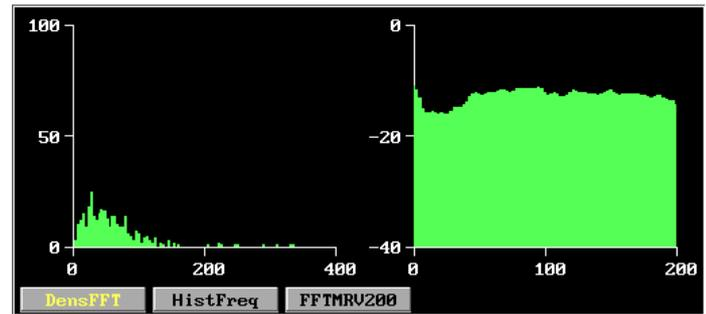
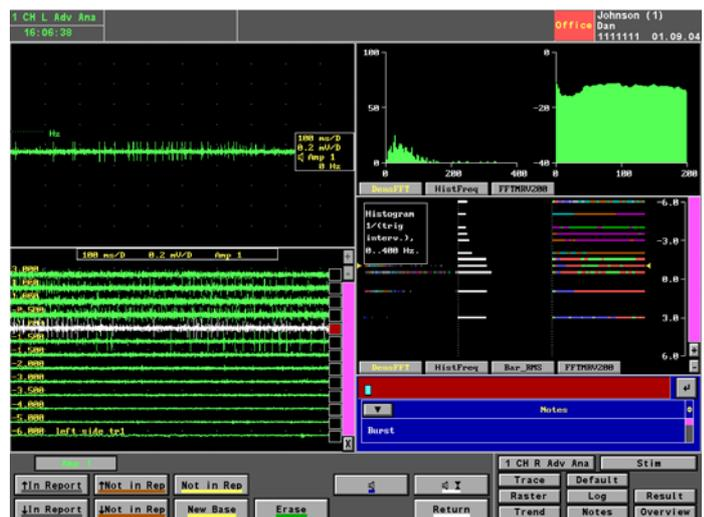

Figure 32 The Result Window from Fig. 38 above.
Figure 34 Overview Window: 2 yellow arrows
If no signal is selected, it is the last saved signal displayed. One example is the HistFreq display, the left chart in Figure 32. This shows the histogram of the frequency of the detected peaks in the signal. The frequency is along the x-axis, and the number of occurrences is along the y-axis. For further explanation and setup, please see the description in the subsection *Results* in the section the Modality Setup Menu on page 60.
TIP Holding down the mouse button while clicking anywhere in the Result, or the Overview Windows will produce a pop-up menu. It displays additional information on the abbreviated form of the name on the various buttons in the window. See Figure 34 below.
An example of a single value is **Bar_RMS** of Figure 34. In this case the RMS value of each recorded curve is shown as the length of the bar.
An example of a color-coded result is **HistFreq** of Figure 34. This shows the result curve from Figure 32 with the same name, but converted to lighter colors for high values, and darker for lower values. For a more detailed description of the analysis results available and the setup please see the description in the subsection **Results** in the section on The Modality Setup Menu on page 60.
- Selecting a trace in the Trace Window by clicking on  brings about two yellow arrows pointing at the relevant color bar in the Overview Window see Figure 34 below: